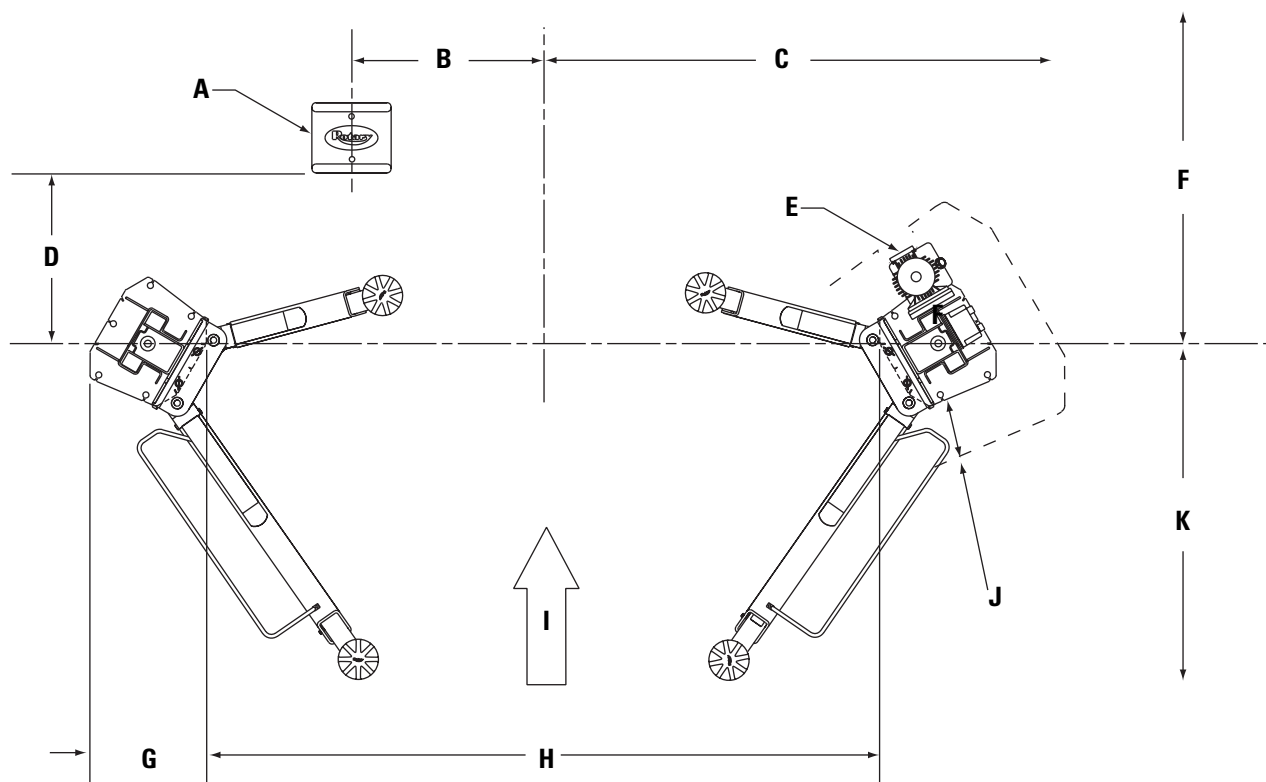

Fig. 2a
1. Lift Location: Use architects plan when available to locate lift. Fig. 1a, 1b or Fig. 2a, 2b shows dimensions of a typical bay layout.
5. Lift Setting: Position columns in bay using dimensions shown in Fig. 1a, 1b or Fig. 2a, 2b. With column lying on the floor, two people can lift the top of the column and walk towards the base. As the column approaches vertical, one of the two people should move to the opposite side of the column and assist in slowly setting the column flat on its base. Both column base plate backs must be square on center line of lift. Notches are cut into each base plate to indicate center line of lift. Using appropriate equipment, raise carriage to first latch position. Be sure locking latch is securely engaged.